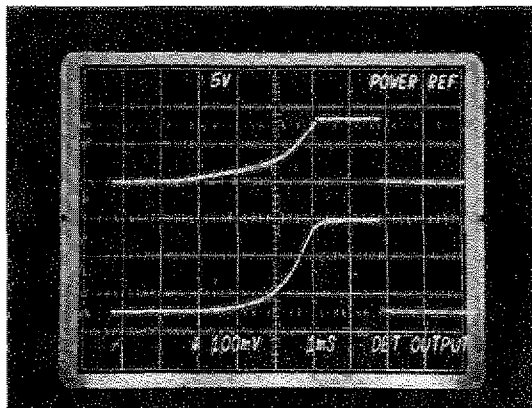

FIGURE 5-1
h. Channels A and B should have similar waveforms, with maximum detector output approximating 1 watt at A201J2 (see Figure 5-1).